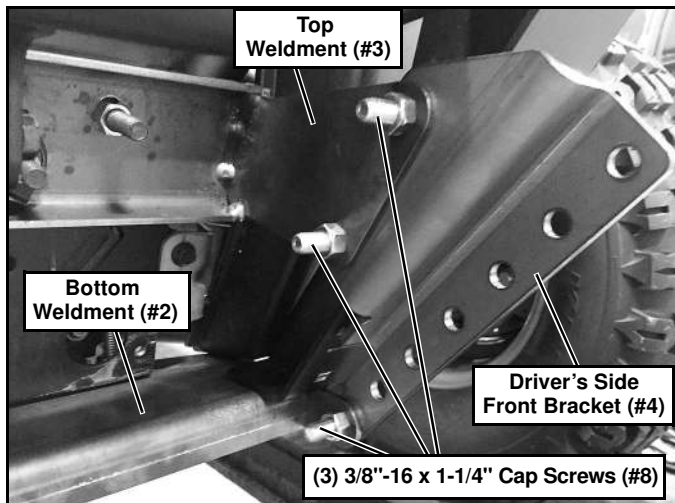

Figure 7
11. On the driver's side, align the Driver's Side Front Bracket (#4) to the outside of the Top Weldment (#3) and Bottom Weldment (#2). The rearward (2) holes align with the Top Weldment (#3), and the forward bottom hole aligns with the hole in the Bottom Weldment (#2). (See Figure 7.)
12. Insert (3) 3/8"-16 x 1-1/4" Cap Screws (#8) into the Driver's Side Front Bracket (#4), and through the Top and Bottom Weldments (#3 and #2). Secure with (3) 3/8"-16 Lock Nuts (#9). (See Figure 7.)